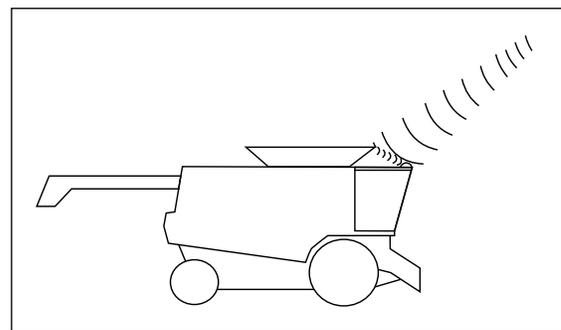

Figure 2.2 Grain extensions can cause multipath error, leading to signal degradation.
3. 3) Make sure that the receiver is at the highest point on the vehicle. For example, if you added extensions to the combine's grain tank and the receiver is on top of the cab, the extensions may protrude above the receiver, reducing the number of viewed satellites. It also could cause a multipath error. Multipath error occurs when the GPS signal bounces off of an object (in this case the extension) and then is picked up by the receiver (Fig. 2.2). This causes the receiver to receive multiple signals, one directly from the satellite, and one from the signal bouncing off of the bin extension.
5. An additional frequent problem is the vehicle wandering off course. Two-way radios and citizens band (CB) radios can interfere with GPS signals, causing loss of satellites. If the vehicle is wandering off course, change the frequency of the radios and CBs. Electrical noise from a bad alternator can also cause degradation or loss of GPS signal quality.